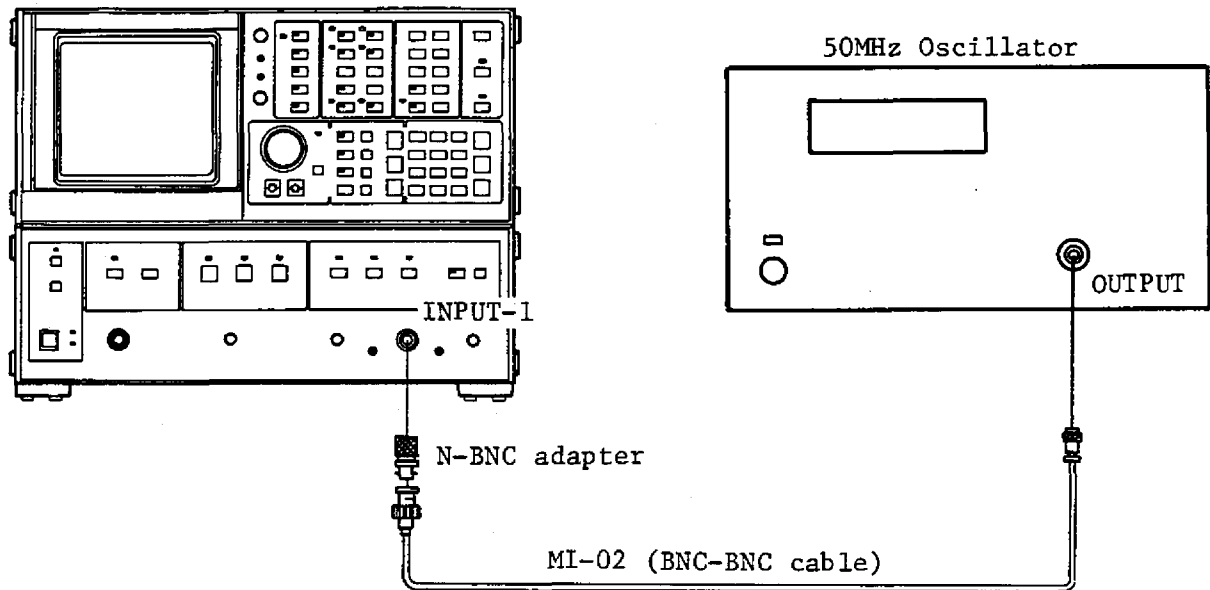

Fig. 4-2 Measurement setup
- ① Connect the output of a 50 MHz oscillator to INPUT-1 on the TR4172 as shown in Figure 4-2.